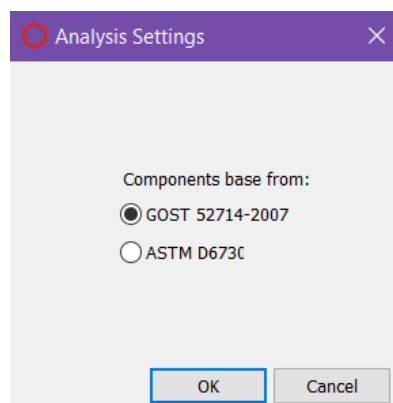

Fig. 5. Analysis Settings
1. In the main program window, click **Analysis Settings**. The *Analysis Settings* window opens (Fig. 5).